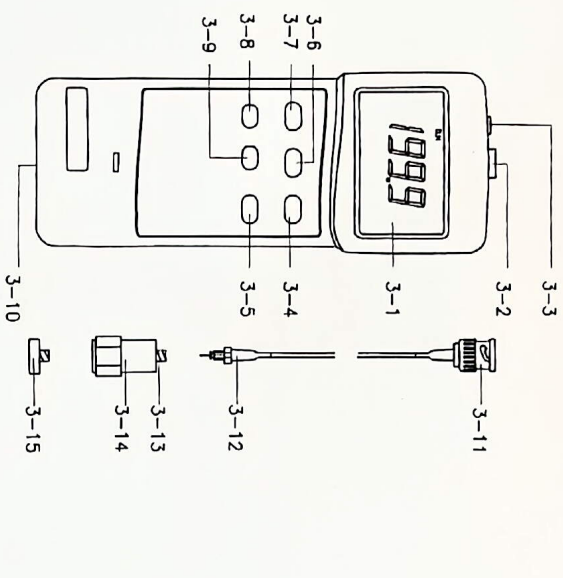
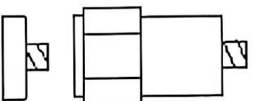
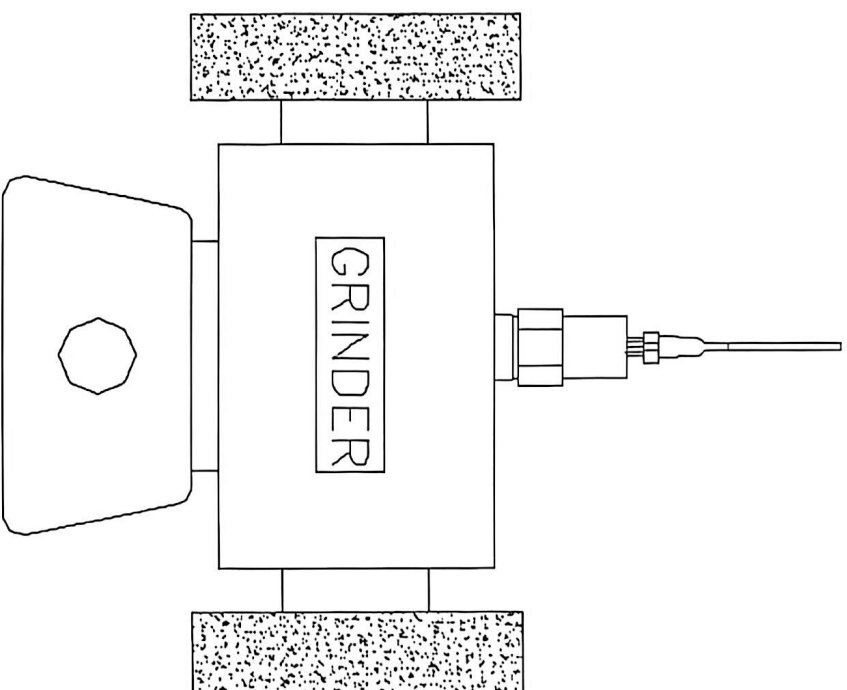

Fig. 1
Fig. 3
Fig. 4
- 1) Plug in the "BNC plug of cable" (3-11, Fig. 1) to the "BNC socket of meter" (3-2, Fig. 1).
- 2) Plug in the "Mini plug of cable" (3-12, Fig. 1) to the "Input socket of vibration sensor" (3-13, Fig. 1).
- 3) For the acceleration measurement, select the "Acceleration/Velocity switch" (3-5, Fig. 1) to the "ACC." position.
For the velocity measurement, select the "Acceleration/Velocity switch" (3-5, Fig. 1) to the "VEL." position.
- 4) Select the "RMS/PEAK switch" (3-4, Fig. 1) to the "RMS" position.
- 5) Power on the meter by pushing the "Power button" (3-7, Fig. 1) once.
7) If the surface material of measuring article is the ferrous material, connect "Vibration sensor" (3-14, Fig. 1) with the "Magnetic base" (3-15), refer Fig. 3. Put the whole unit (Vibration sensor & Magnetic base) to the surface of measuring article, refer Fig. 4.
Before the measurement if select the " RMS/PEAK switch " (3-4, Fig. 1) to the " PEAK " position. Then during the measurement, the display will display the peak value.
During the measurement, push the " Data Hold button " (3-6, Fig. 1) will hold the measured value & the LCD will indicate " D.H. " symbol.
* The DATA RECORD function displays the maximum, minimum and average readings. To start the DATA RECORD function, press the " RECORD Button " (3-8, Fig. 1) once. " REC " symbol will appear on the LCD display.
- (a) Push the " RECALL button " (3-9, Fig. 1) once, the " Max " symbol along with the maximum value will appear on the display.
During the measurement, push the " Record Button " (3-8, Fig. 1) to execute the memory record function.
The instrument features an RS232 output via 3.5 mm Terminal (3-3, Fig. 1).
- 2) Use the coining or " - " screw driver to open the " Battery Cover " (3-10, Fig. 1) away from the instrument and remove the battery.